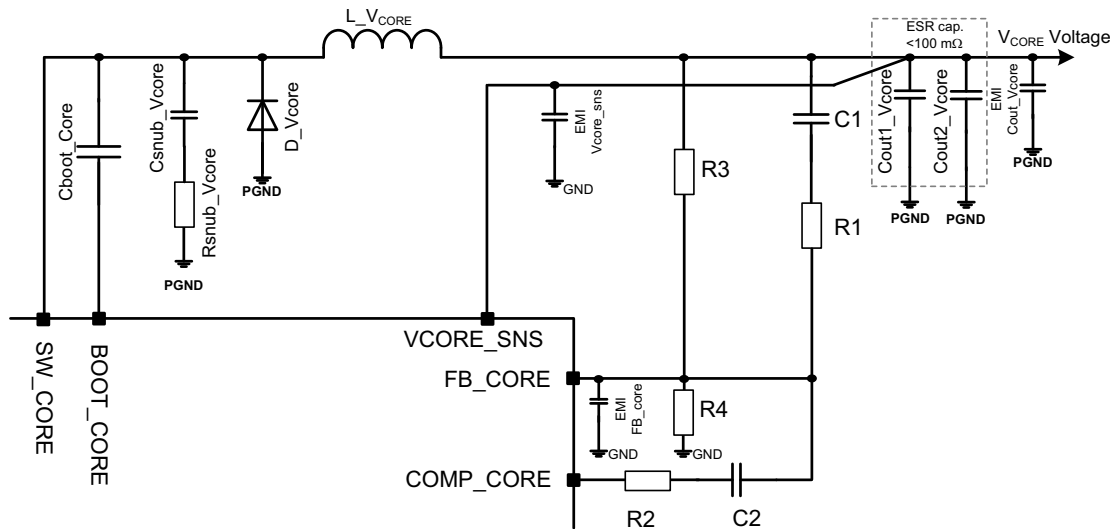

Figure 16. V_{CORE} connections
The core supply regulator is configurable from 1.2 V to 3.3 V range and adjustable around these voltages with an external resistor bridge (R3 and R4). An external compensation network made of R1, C1, R2, and C2 is connected between V_{CORE_SNS}, FB_{CORE}, and COMP_{CORE} to ensure a good stability of the closed loop. The core supply connections are shown in Figure 16.
- The current pike in R_{SNUB_VCORE} at each V_{CORE} cycle is important. The R_{SNUB_VCORE} resistor type must be at least 1/4 W. $P(R_{SNUB_VCORE}) = 1/2 \times C_{SNUB_VCORE} \times (V_P^2 + V_N^2) \times F_{SW}$ where V_P and V_N are the voltage levels (positive and negative) measured at the resistor R_{SNUB_VCORE} (see Figure 16).